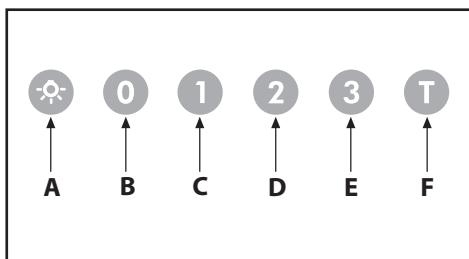

Fig.10
- **Commands (Fig.10) luminous** the key symbols are explained below: